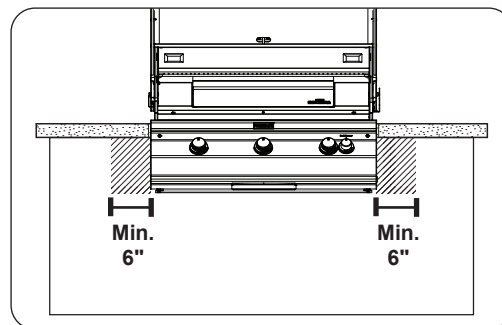

Fig. 20-1 Control panel clearances
- The control panel **MUST** have a minimum side clearance of 6" from any obstructions/side walls. See Fig. 20-1.